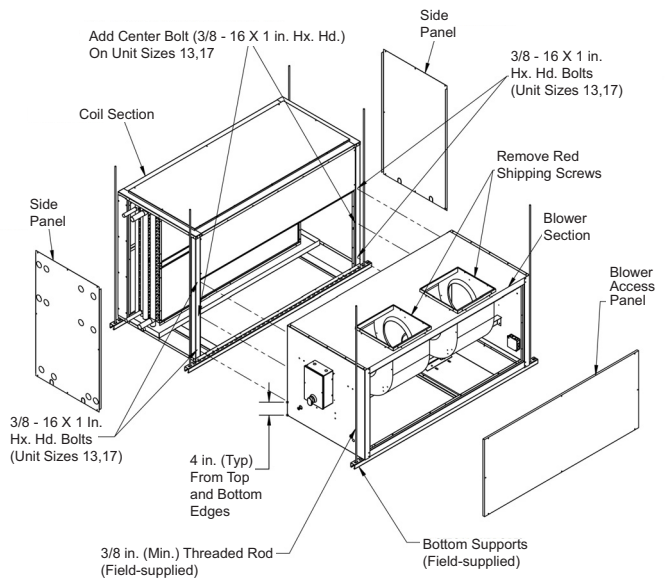

Fig. 28 — Connect Sections (Horizontal Configurations)
3. Remove coil section side panels and blower section access panels. See Fig. 28.